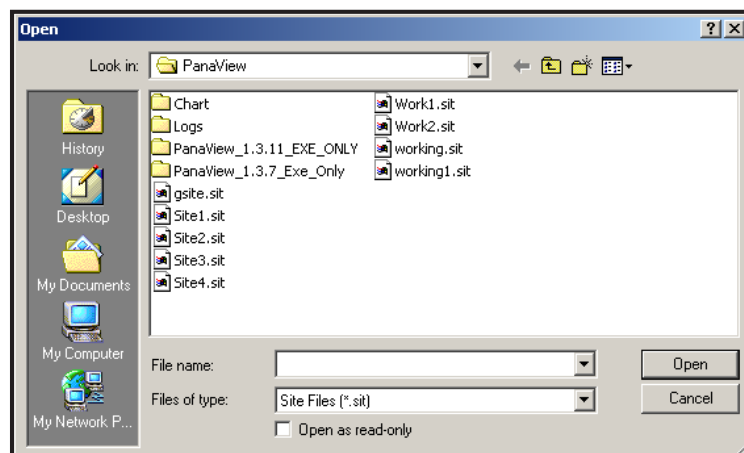

Figure 52: Site File Selection
- Then click on the [Save Site to Meter] button. A screen opens similar to Figure 52.